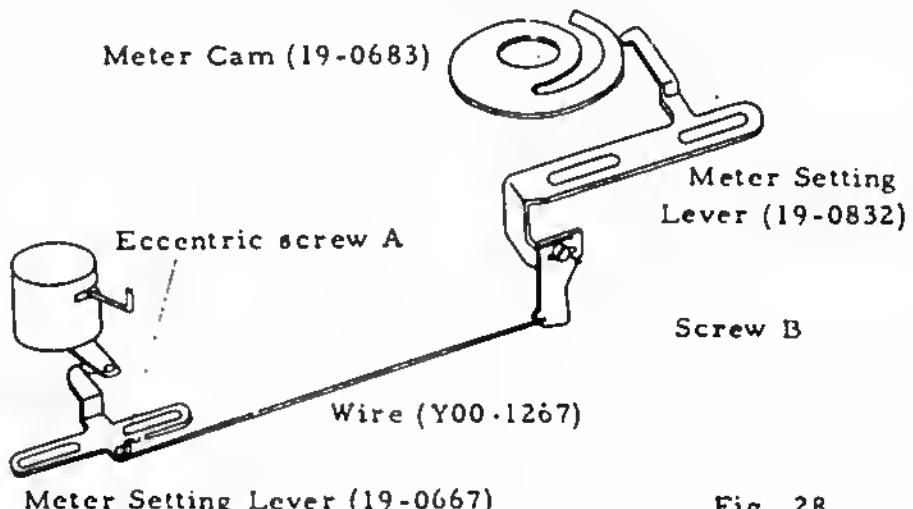
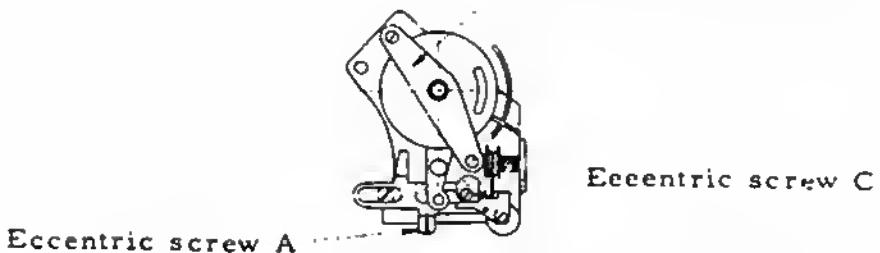

Fig. 28
Fig. 29
2) Set the eccentric screw A (Fig. 28) to its position.
3) At ASA 100 1/125 sec, the inscribed line of Meter Holder (13-9781) coincides with that of Meter Cover. In this case, the lever of Meter becomes perpendicular. See Fig. 29. Make adjustment by turning the screw B. See Fig. 28.
- 2) The Meter needle must align at the center of the Following Needle at the specified brightness. See Fig. 30. Make adjustment with the eccentric screw A (Fig. 29).
- 1) Warning Lever (13-9726) must work properly between 1/4 and 1/2 sec at ASA 100. Adjust it with eccentric screw C (Fig. 29).